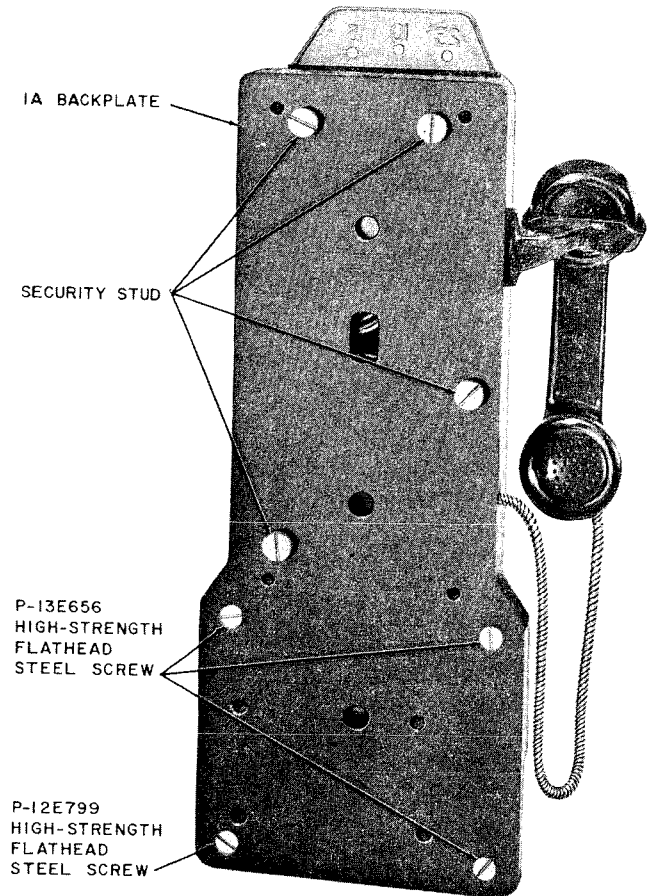

Fig. 25—Rear View of Coin Collector with 1A Backplate Attached
3.31 The 1A backplate is provided with clearance holes for security studs and mounting screws. It is fastened to the coin collector backplate by replacing the four lower housing assembly screws with one P-12E799 and three P-13E656 high-strength flathead steel screws (Fig. 25). The replacement screws must be ordered separately.